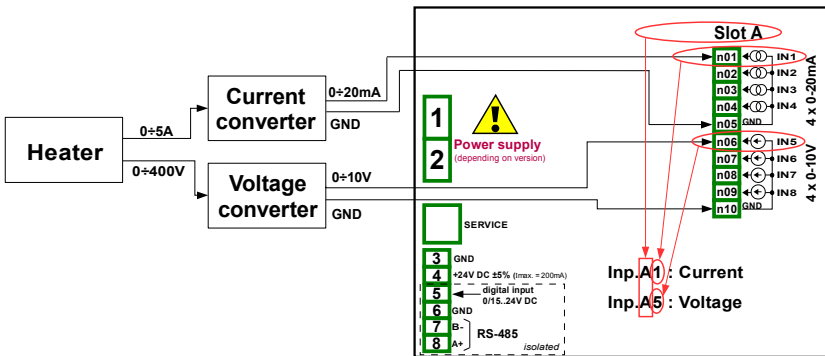

Fig. 7.61. Schematic diagram for the **UI4** module
First configure the device as described below, then connect the heater to converters and then to the device (in accordance with **Fig. 7.61**).
- **Source** parameter set as **Inp. A1: Current** (see the connection in **Fig. 7.61**),
- **Source** parameter set as **Inp. A5: Voltage** (see the connection in **Fig. 7.61**),